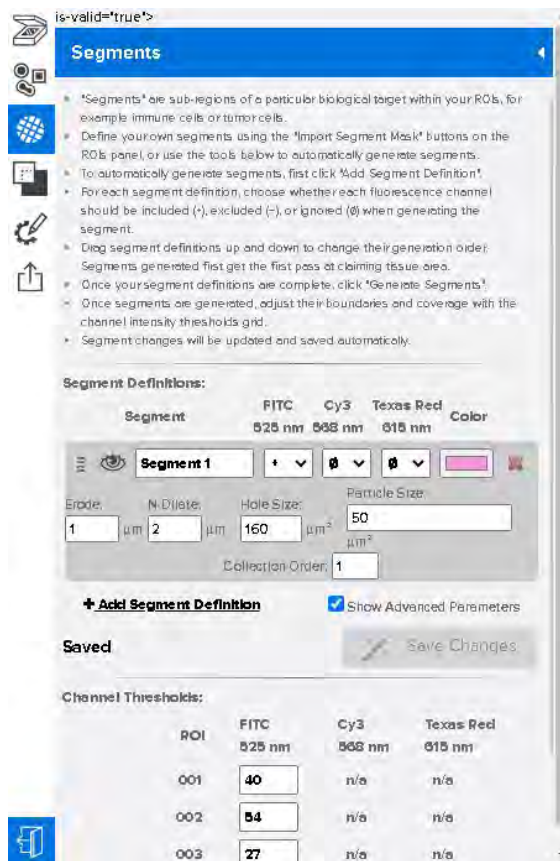

Figure 40: Segment definitions with channel thresholds
8. After your first autosegmentation, a **Channel Thresholds** grid will appear below your segment definitions, allowing you adjust your segments manually for each ROI. Adjust the values in the **Channel Thresholds** grid, as needed, to change the sensitivity to each channel you've chosen to assess (the channel designation set to +) (see Figure 40).